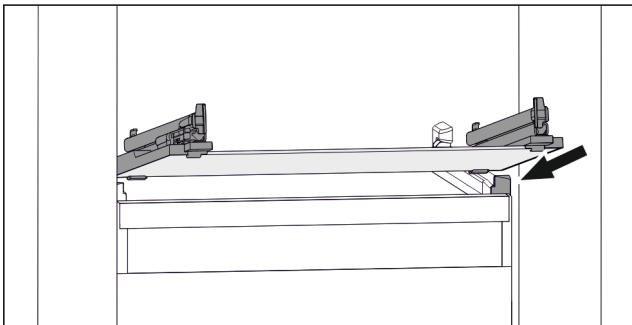

Fig. 115 Example illustration of glass shelf
- ▶ Position glass shelf at an angle behind the stoppers. (see Fig. 115)